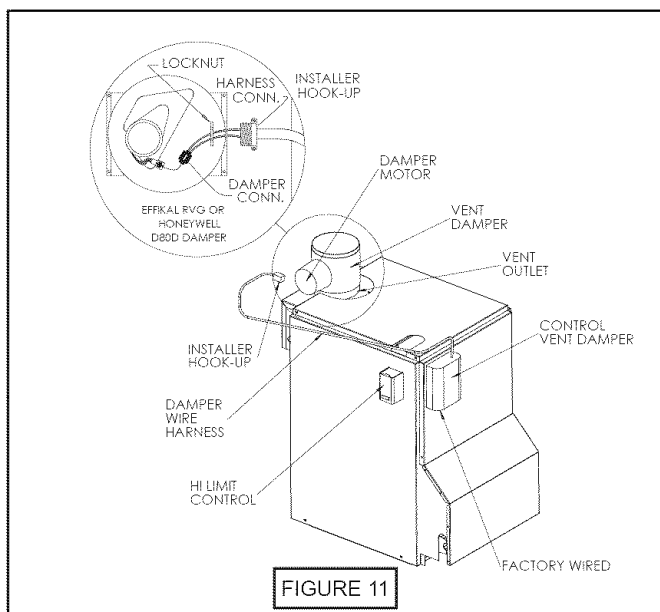

FIGURE 11
**NOTE:** Refer to Figure 11 for steps 1-7.
7. Replace Damper Motor cover and wire Damper in accordance with Figure 11.